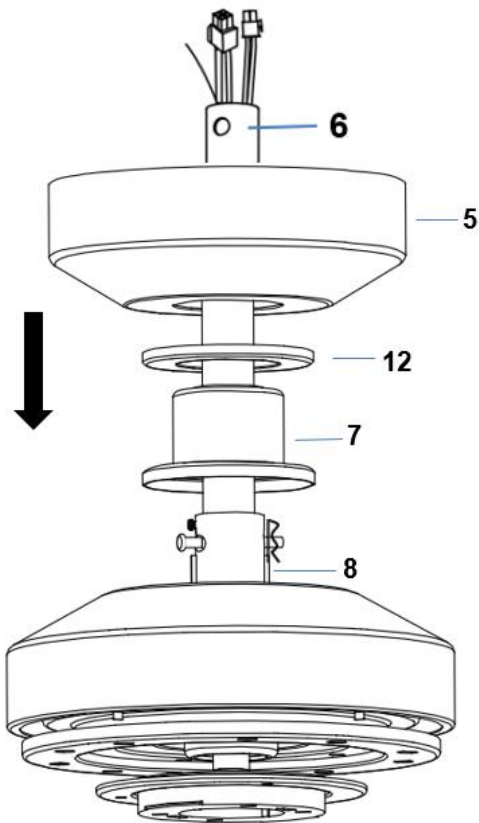
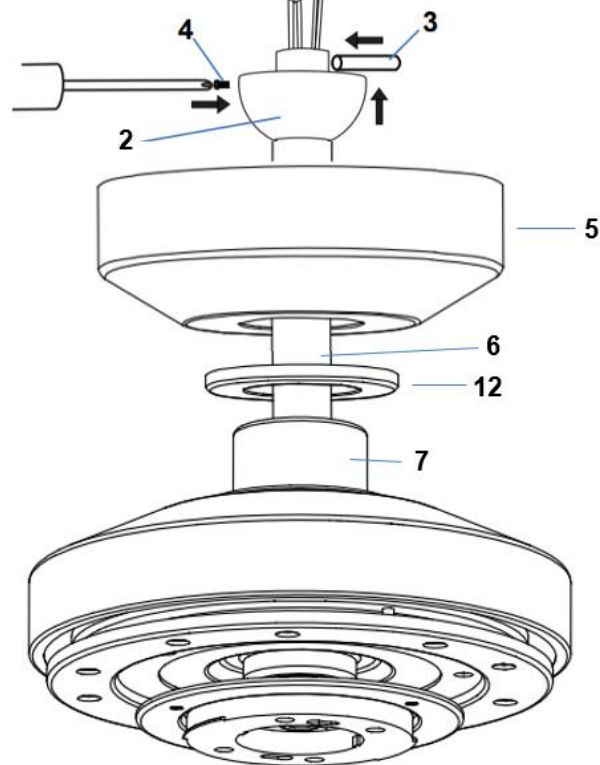

Fig. 4.5
Fig. 4.6
- 6. Insert the decorative cover (7) onto the down rod (6) to cover the down rod coupling housing (8). (Fig. 4.5)
- 7. Insert the canopy cover (12) & canopy (5) over the down rod (6) and install the ball joint (2) and dowel pin (3) back onto the down rod (6) and secure by tightening the set screws (4). (Fig. 4.5 & Fig. 4.6)